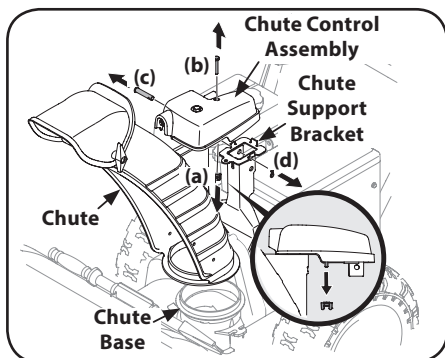

Figure 2-30
1. Remove wing nut (a) and hex screw (b) from chute control assembly and clevis pin (c) and cotter pin (d) from chute support bracket. Position chute assembly (forward-facing) over chute base. See Figure 2-30.